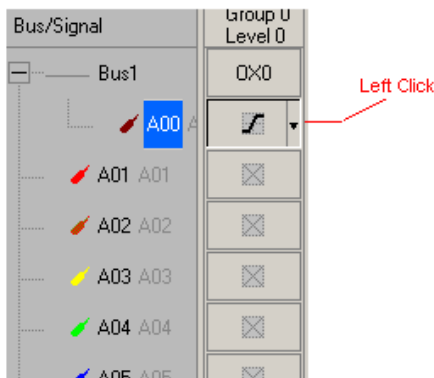

Fig 4-25 – Left Click
1. Left Click to set the signal trigger edge as shown in Fig 4-25.